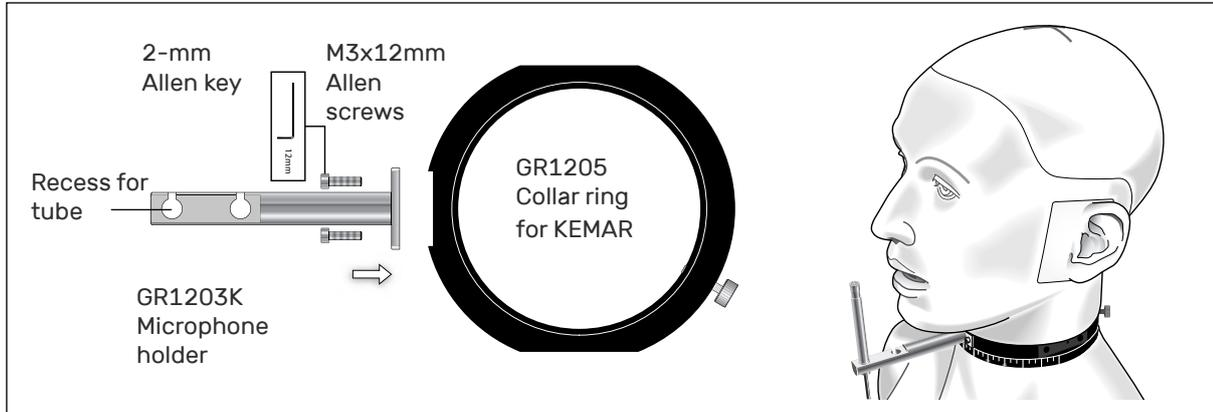

Fig. 53. Calibration Jig with Collar Ring and Microphone Holder.
1. Using the 2 mm Allen key and the 2 x M3 screws (all supplied), mount the microphone holder onto the black collar ring (Fig. 53). The collar rings for extending the neck are not used.